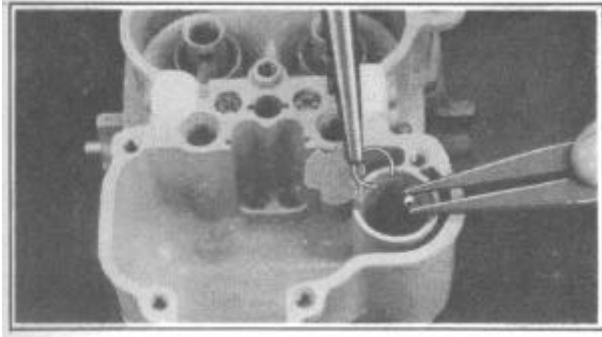

FIGURE 69
10. Install intake check ball, pump check ball retainer ring, and pump strainer, Figure 69.